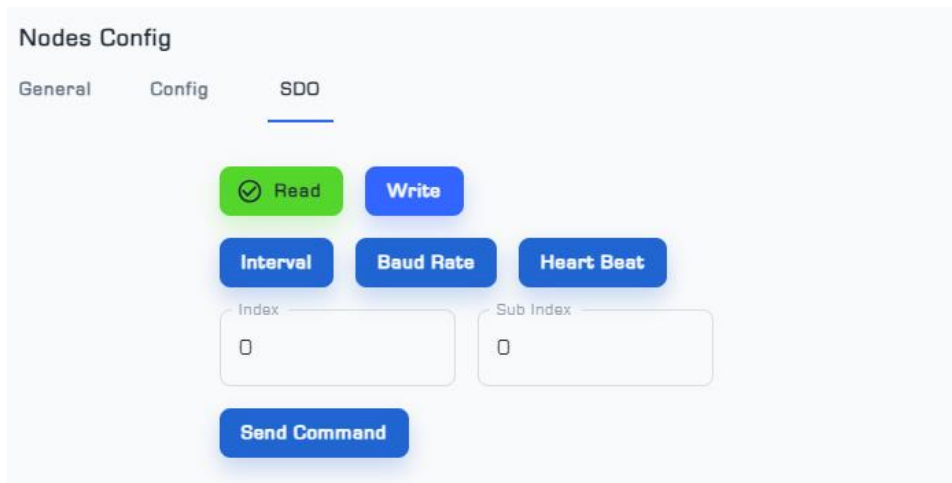

Figure 7: SDO Menu from Nodes Config page
- The SDO menu is used to change the parameters of Interval 1, Baud Rate 2, and Heartbeat3 (Figure 7).